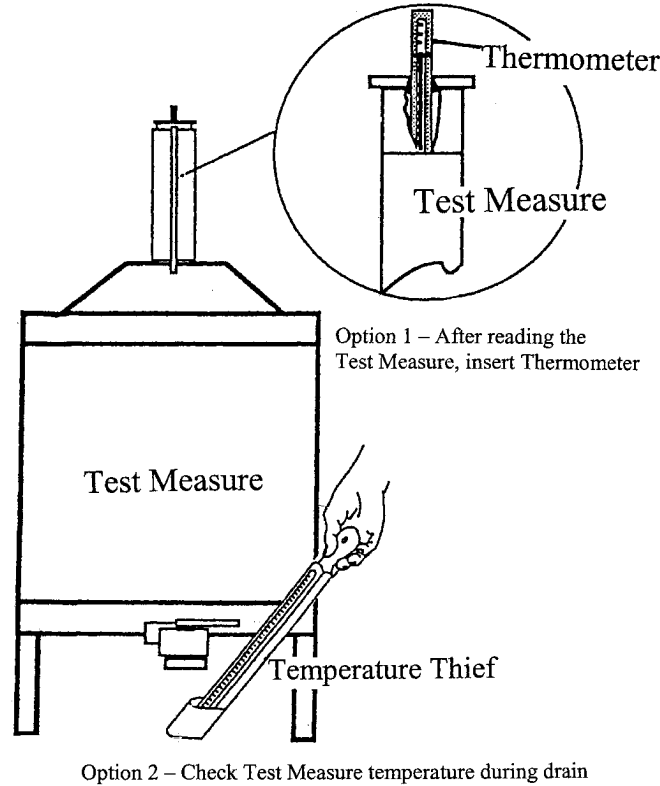

Figure 4-5. Test Measure Temperature Stabilization
- Three (3) glass stem thermometers with 1/5 degree divisions and a range of 30 to 124°F (-1 to 50°C), traceable to the National Institute of Standards and Technology (N.I.S.T.) or other certifying agency, as applicable. One thermometer may be mounted in a temperature thief device. See Figure 4-5.
17. Record  $T_m$ , the temperature of the test measure (i.e. the water temperature inside the test measure). Open valve W3 momentarily, allowing about  $\frac{1}{2}$  gallon of water to drain out, and measure the temperature of the drained water with the temperature thief. (Figure 4-5).
20. Be certain the optical assembly cover is in place and toggle the UPSTREAM/DOWNSTREAM switch (S2) on the interface board to the **upstream** position. Actuate the RUN/RETURN switch (S1) to the **run** position. (See Note 3 on page 4-14.) This will open the solenoid valve (SV) and the measurement piston will begin to move upstream. Throttle valve W3, if necessary, to maintain the water level in the test measure near the zero mark. When the flag **exits** the second optical volume switch, the solenoid valve (SV) will close and the water flow will stop.
22. Check and record the system (flow tube) pressure at P1. Actuate the RUN/RETURN switch (S1) to the run position. (See Note 3.) This will open the solenoid valve (SV) on the water draw hardware kit and begin to fill the test measure. Open valve W1, if desired, to increase piston travel speed.
27. Record Tm, the temperature of the test measure (i.e. the water temperature inside the test measure). See Figure 4-5. Open valve W3 momentarily, allowing about ½ gallon of water to drain out, and measure the temperature of the drained water with the temperature thief.